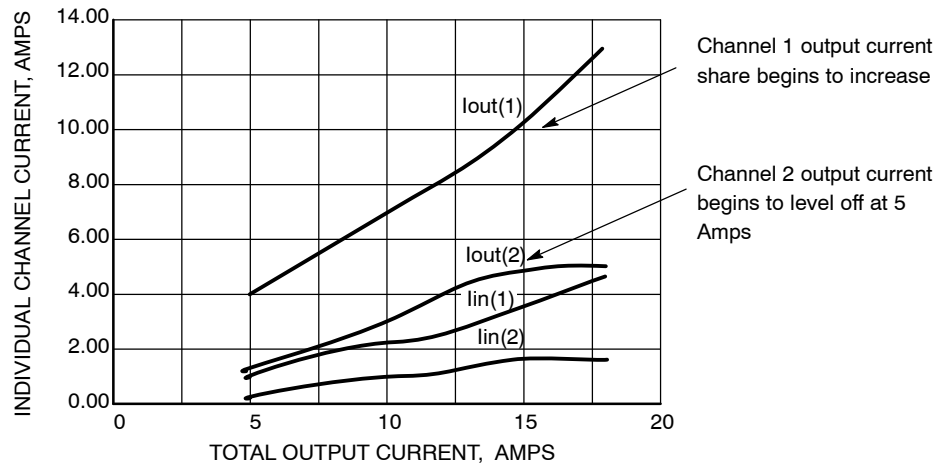

Figure 17. 70%/30% Current Sharing with Channel 2 Current Limiting
- A preset ratio up to a specific current contribution from Channel 2. In excess of that limit, all of the additional load current would be supplied by Channel 1. Figure 17 depicts the actual performance of a NCP5425 configured in a 70%–30% share ratio, with Channel 2 output current limited to 5.0 Amps.
Channel 1 is connected to the reference input of the Channel 2 error amplifier. Current information from Channel 2 is fed back to the error amplifier's inverting input. Channel 2 will therefore act to adjust its current to match the current information fed to its reference input from Channel 1. If this information is one-half the voltage developed across the Channel 1 output inductor, Channel 2 will run at half the current and supply a approximately 33% of the total load current. This application is illustrated in Figure 17.